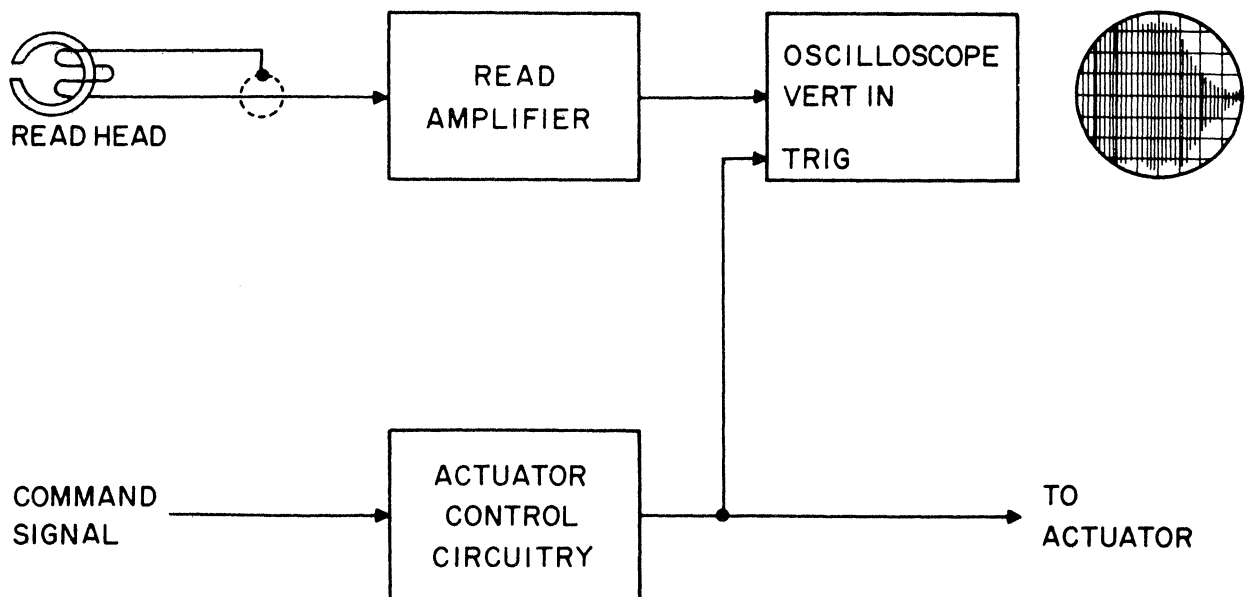

Fig. 4.13
Step 1. Connect equipment according to Figure 4.13.
Step 4. Cycle transport to operate in Forward and Reverse Drive modes at a convenient rate. Instantaneous speed variation must fall to 10% or less within 3.3 msec from start command. A typical waveshape is shown in Figure 4.13.